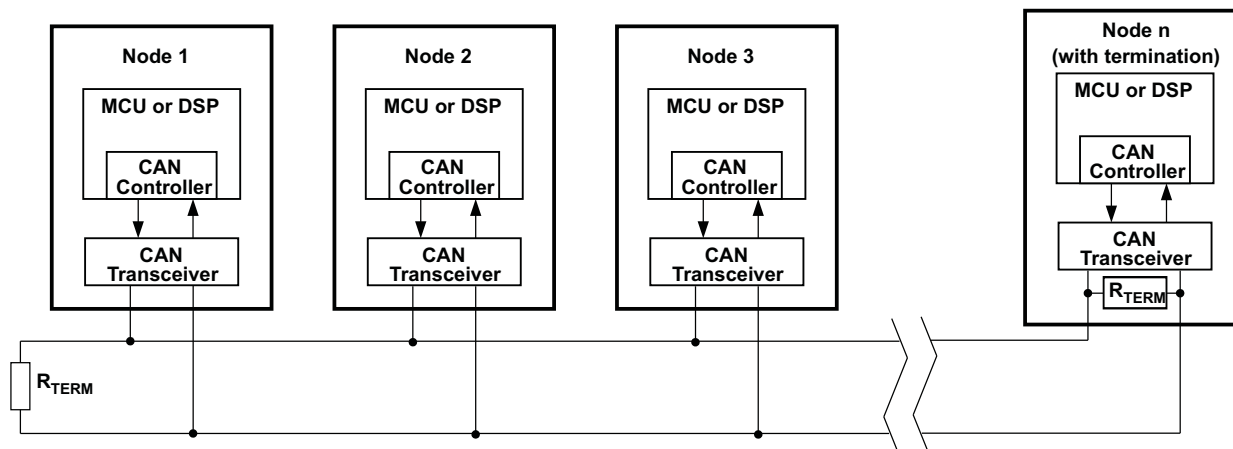

Figure 33. Typical CAN Bus
The diagnostic loopback or internal loopback function of the SN55HVD233-SP is enabled with a high-level input on pin 7, LBK. This mode disables the driver output while keeping the bus pins biased to the recessive state. This mode also redirects the D data input (transmit data) through logic to the received data output (R), thus creating an internal loopback of the transmit-to-receive data path. This mimics the loopback that occurs normally with a CAN transceiver because the receiver loops back the driven output to the R (receive data) pin. This mode allows the host microprocessor to input and read back a bit sequence or CAN messages to perform diagnostic routines without disturbing the CAN bus. Figure 33 shows a typical CAN bus application.